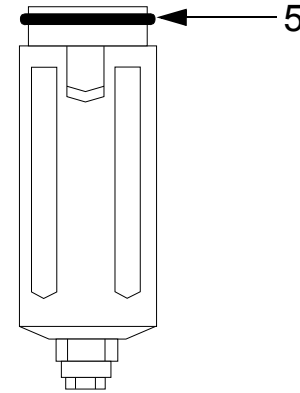

Fig. 13 O-ring of the main filter
- 7 Remove O-ring (Fig. 13/5) from housing and replace it with a new one.